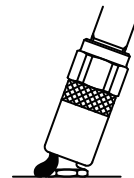

Fig. 6
- 4) Remove the hydro chuck of the grease gun. Since pressure is applied to the hydro chuck, the head of the nipple may be broken if it is suddenly pulled. Incline the hydro chuck to bleed the internal pressure and loosen the claw bite, and the chuck can be easily removed. (Fig. 6)